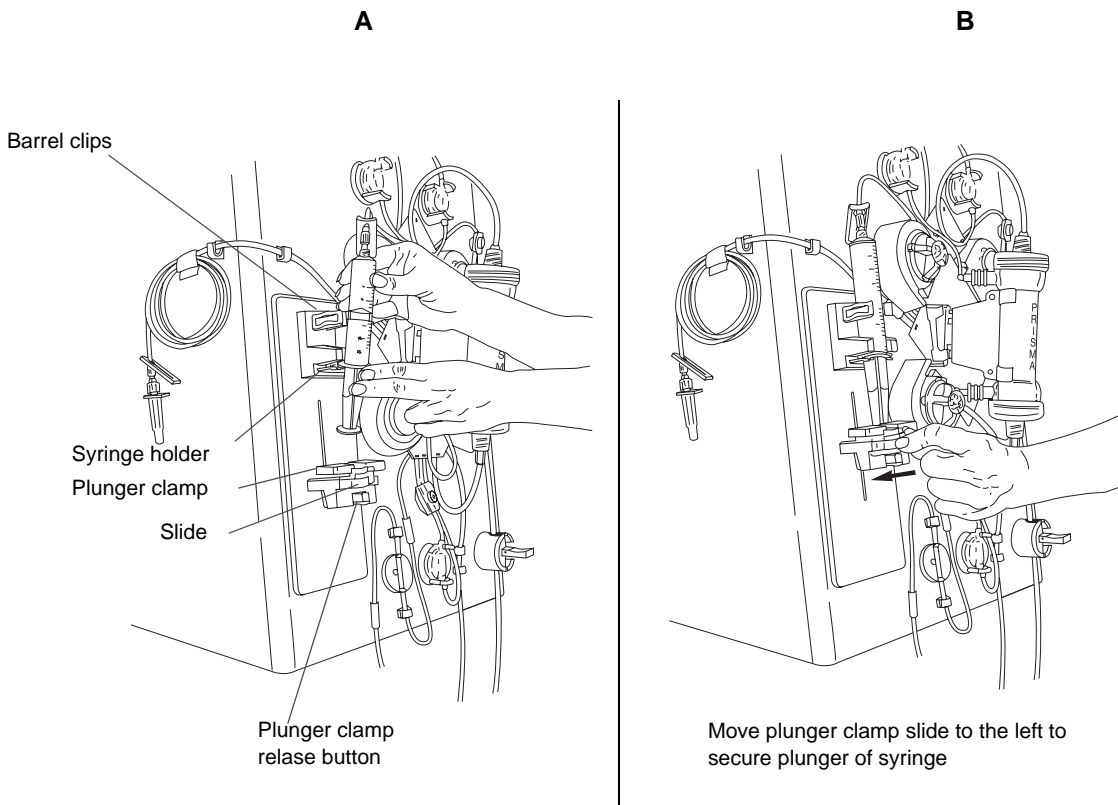

Figure 2-3. Installing the Anticoagulant Syringe with the PRISMA Set for CRRT
(See Figure 2-3)
4. Install the full syringe, following Steps 5 through 7 under “Initial Syringe Installation.” See Figure 2-3.